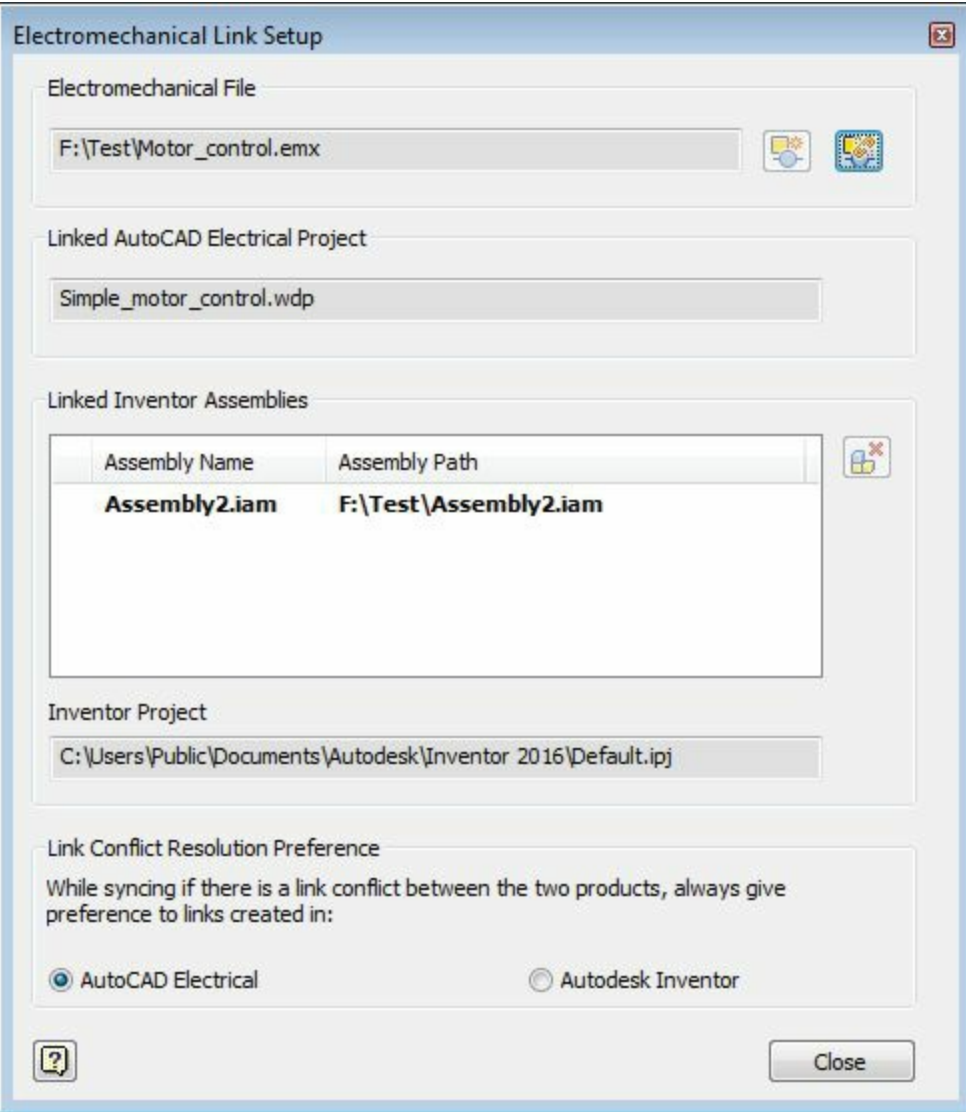

Figure-13. Electromechanical Link Setup dialog box with inventor project selected
- Click on the **Yes to All** button and then on the **OK** button from the dialog box to save the changes. The **Electromechanical Link Setup** dialog box will be displayed; refer to Figure-13.